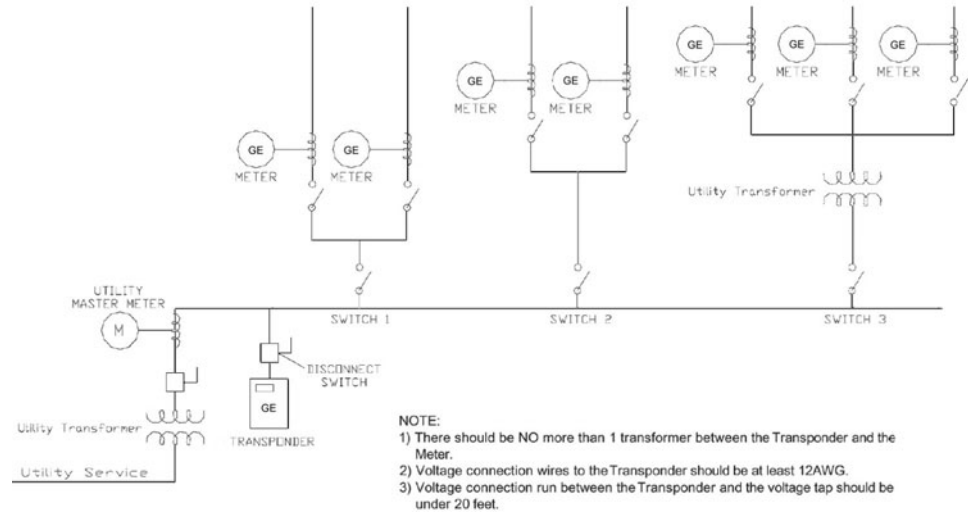

FIGURE 2-1: Typical Transponder Installation
2. The best location for Transponder installation is the closest point to the GE meters before the main feeder for the "service" branches out into sub-feeders. This is the last point in the "service" before the first riser switch that feeds any GE meters (see Figure 2-1).